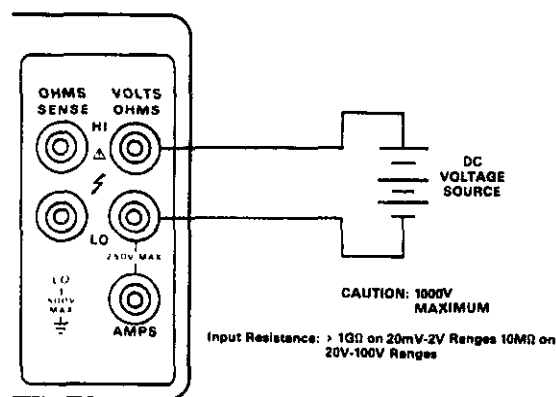

Figure 2-6. DC Voltage Measurements (Front Panel Connections Shown)
7. Connect the test leads to the source as shown in Figure 2-6.